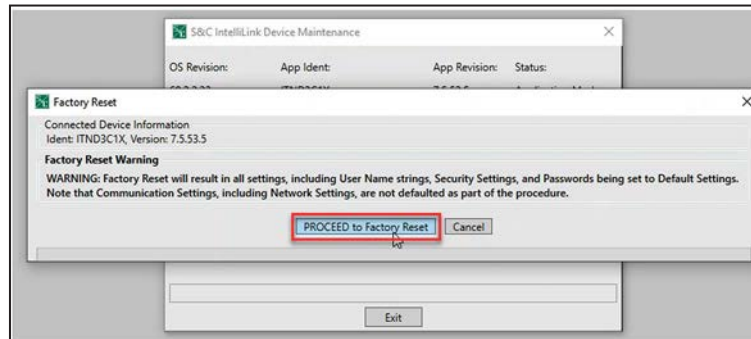

Figure 51. The Proceed to Factory Reset button.
STEP 5. Click on the **Proceed to Factory Reset** button when prompted. See Figure 51.